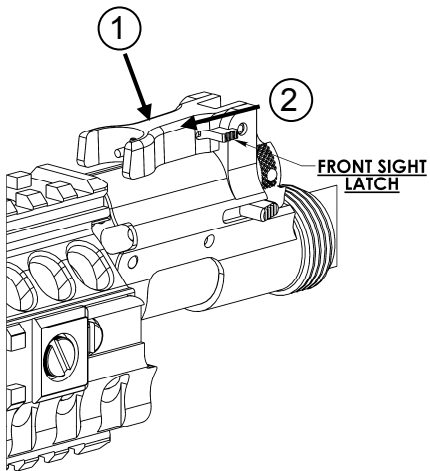

Figure 26.
1. To engage front sight, depress sight and slide the front sight latch rearward. (Figure 26).